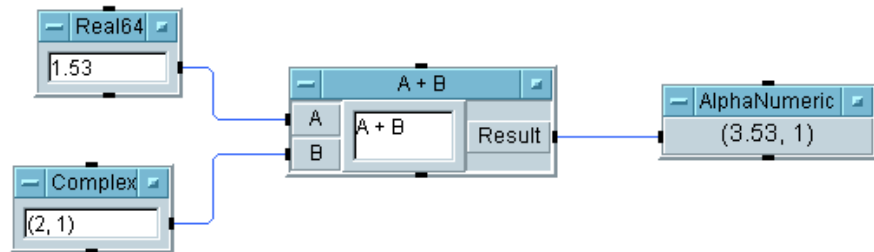

Figure 2-15. Using Data Types
5. Add an AlphaNumeric object by selecting Display ⇒ AlphaNumeric. Connect the objects as shown in Figure 2-15. Type in
the value 1.53 in the data entry field of the Real64 Constant object and the complex value (2, 1) in the Complex object. Run the program and you should get the result shown in Figure 2-15.